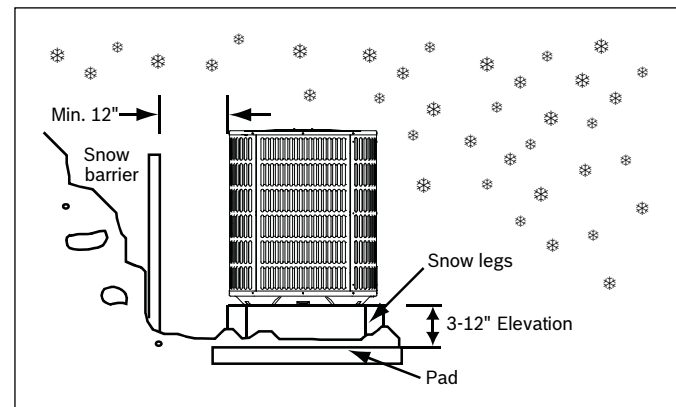

Figure 5
- Units should be elevated 3-12 inches above the pad or rooftop, depending on local weather. This additional height will allow drainage of snow and ice melted during defrost cycle prior to its refreezing. Ensure that drain holes in unit base pan are not obstructed, which could prevent the drainage of defrost water (Fig. 5).